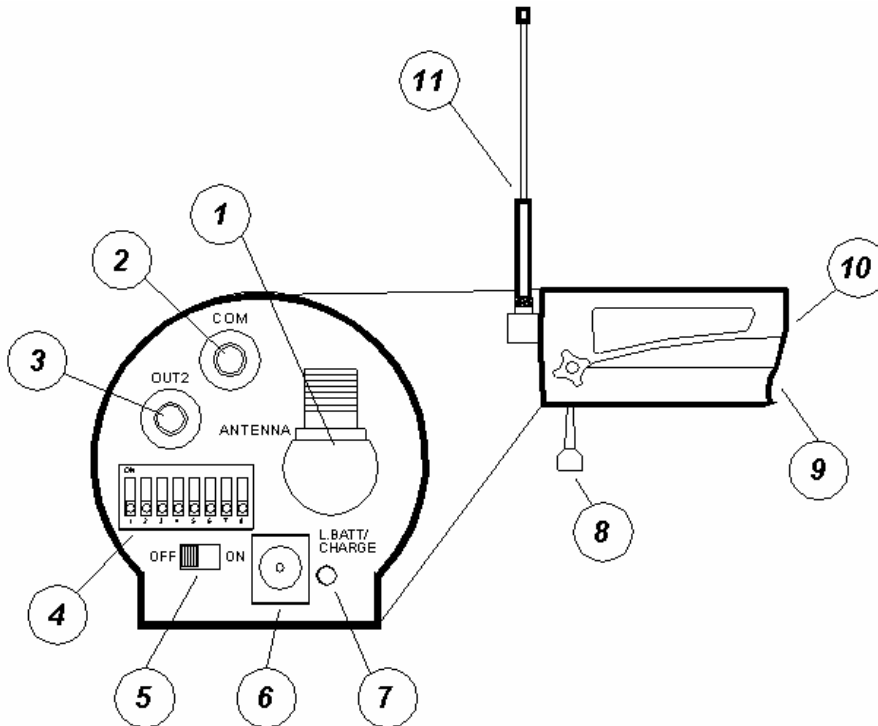

Fig. 1
- recharge power source: power applied to recharge jack (see fig 1 n° 6). Voltage must be between 8V and 13V (we strongly advise you not to use voltages above 13V; for higher voltages a security mechanism - varistor – breaks the supply circuit. The circuit is restored when voltage has returned within the operative range).